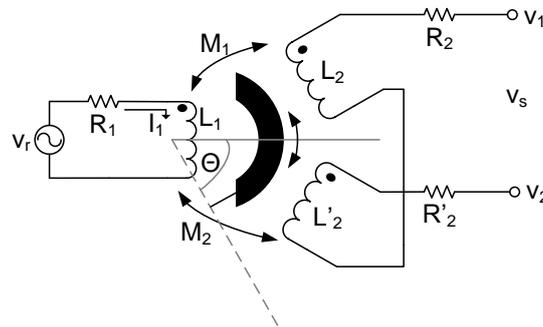
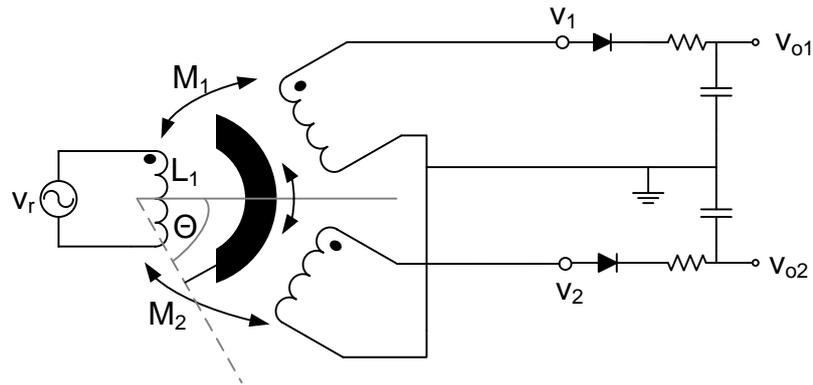

Figure 4: Measuring an angle using an RVDT.
Figure 5: Double-sided rectifier with low-pass filter.
ESP assists a driver to keep a vehicle on the road during dangerous driving conditions. For this purpose, the ESP system uses a large number of sensors in the vehicle. One of these sensors measures the angle of the steering-wheel and steering-column and the speed with which the driver changes this angle (note that one sensor measures both quantities). The RVDT (rotary variable differential transducer) from Figure 4 can be used to measure the angle (and its rate of change). When the driver moves the steer from the central position ($\Theta = 0^\circ$) to the left or to the right, then this will lead to a change in the output voltage of the sensor. This electrical signal can then be sent to the ESP computer. The primary winding of this RVDT is connected to a voltage supply that produces a sinusoidal voltage with an amplitude of 10V and a frequency of 5 Hz. The RVDT has a sensitivity S of $250 \mu\text{V}/(^\circ/\text{V})$. The output voltage of the RVDT is equal to:
- (3p) (d) The output signal of the RVD shown in Figure 4 is connected to a double-sided rectifier with a low-pass filter as is shown in Figure 5. Draw the output voltage, $v_{o2} - v_{o1}$, when the steering wheel is moved in 1 second from an angle $\Theta = -15^\circ$ to an angle $\Theta = +15^\circ$.
- (3p) (e) The output of the sensor (v_s in Figure 4) can be connected directly to an AD converter. Alternatively the output of the sensor could be connected to a phase sensitive detector whose output is then connected to the AD converter. Give at least one reason why we prefer to use a phase sensitive detector in front of the AD converter instead of directly connecting the output of the sensor to the AD converter.